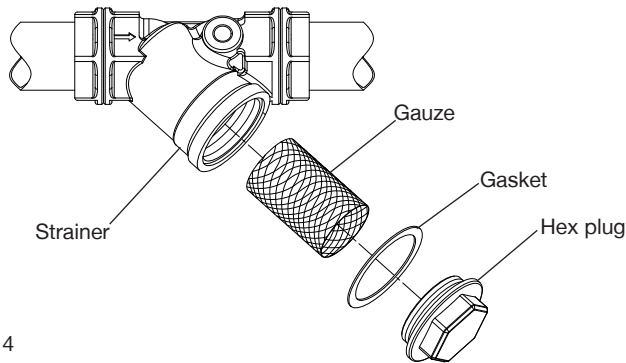

Fig. 14
The pump must be primed (filled with liquid) before starting. Turn on liquid supply, prime and vent the pump by unscrewing the priming plug (Fig. 14) slowly until all air escapes and liquid emerges. Re-tighten plug.
The strainer is located in the inlet pipework to the pump (Fig. 14). The gauze filter is removed as follows:-
- d) Remove screwed hexagonal plug from strainer body taking care to collect or absorb any residual water (Fig. 14).